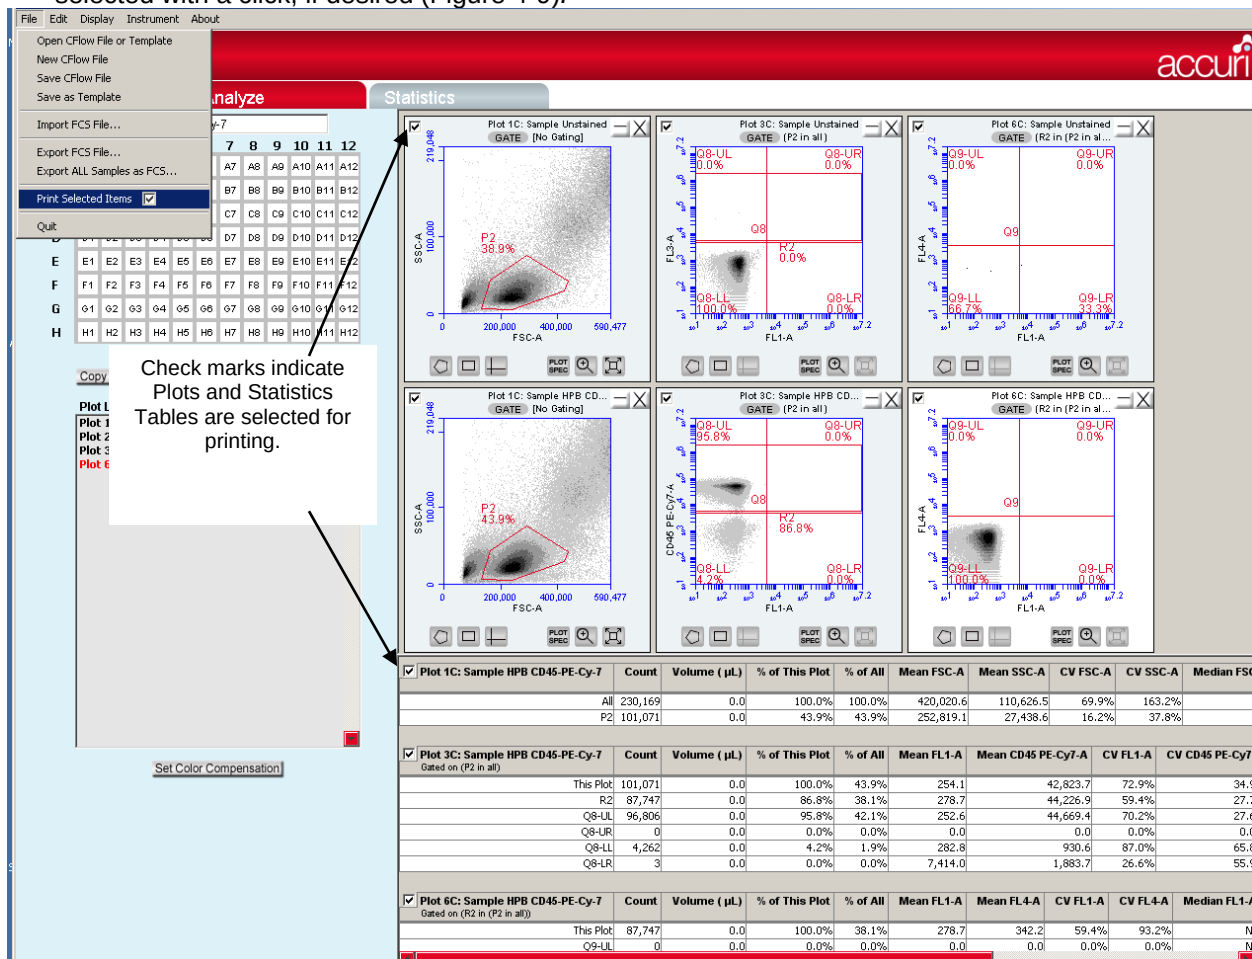

Figure 4-9 Analyze Tab: Plots are selected for printing.
- To print directly from the Analyze tab, click on the small white box in the upper left corner of each plot you want to print, and then select **File, Print Selected Items** from the drop-down menu. The corresponding Statistics table for each plot will automatically be selected as well. These can be de-selected with a click, if desired (Figure 4-9).